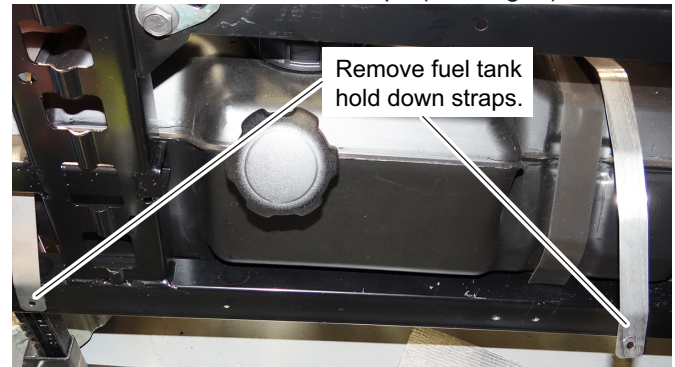

Fig. 6 Fuel Tank Removal
7. Remove the hold down straps (See Fig. 6).